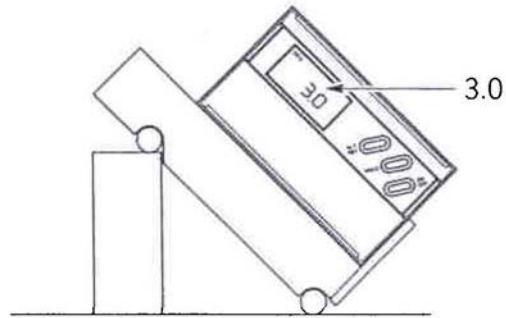

Figure 2
5. Display will read "3.0". Position at  $30^\circ$  (must be a positive angle) from reference surface using the sine bar or rotary table. See Figure 2.